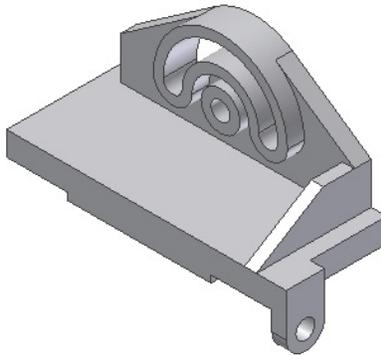

Figure 6-127 Model after creating the join feature
- e. Create the rib and the join feature on the right of the model, refer to Figure 6-127.
3. Extrude the sketch to a distance of 12 mm to create the feature. Make sure that you select the profile by using a point inside the outer loop but outside the circle. The model after creating the join feature is shown in Figure 6-127.